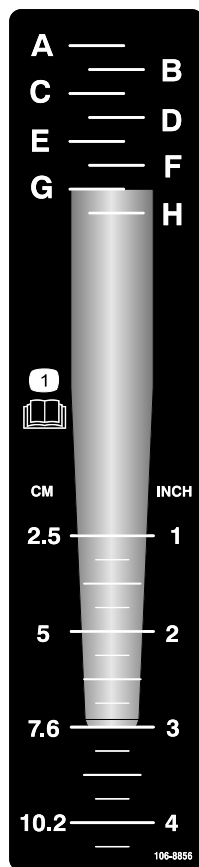

Figure 20
1. Lay the desired tine onto the depth decal while aligning the tine tip with the desired aeration depth as shown in Figure 20.
2. Determine the letter setting aligned with the mounting end of tine (Figure 20). Adjust the depth control to the corresponding letter on the decal.